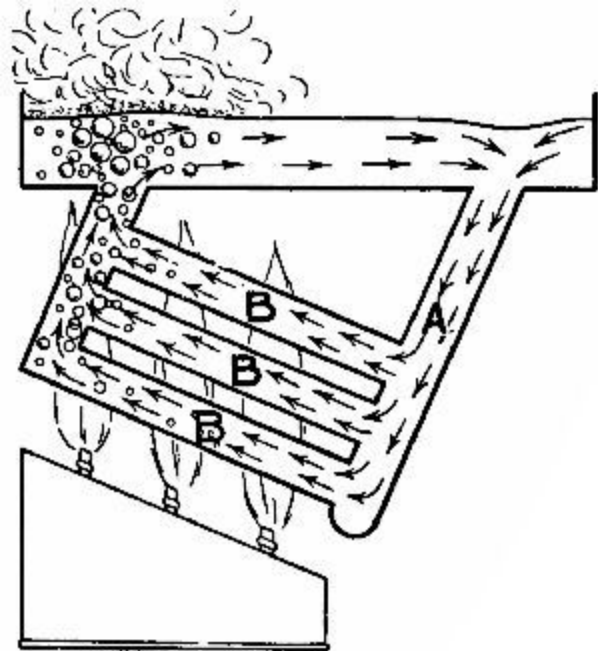

FIG. 5.
A further improvement results from increasing the number of tubes (Fig. 5), keeping them all on the slant, so that the heated water and steam may rise freely.
The Babcock and Wilcox boiler is widely used in mines, power stations, and, in a modified form, on shipboard. It consists of two main parts—(1) A drum, *H*, in the upper part of which the steam collects; (2) a group of pipes arranged on the principle illustrated by Fig. 5. The boiler is seated on a rectangular frame of fire-bricks. At one end is the furnace door; at the other the exit to the chimney. From the furnace *F* the flames and hot gases rise round the upper end of the sloping tubes *TT* into the space *A*, where they play upon the under surface of *H* before plunging downward again among the tubes into the space *B*. Here the temperature is lower. The arrows indicate further journeys upwards into the space *C* on the right of a fire-brick division, and past the down tubes *ss* into *D*, whence the hot gases find an escape into the chimney through the opening *E*. It will be noticed that the greatest heat is brought to bear on *TT* near their junction with *UU*, the "uptake" tubes; and that every succeeding passage of the pipes brings the gradually cooling gases nearer to the "downtake" tubes *ss*.